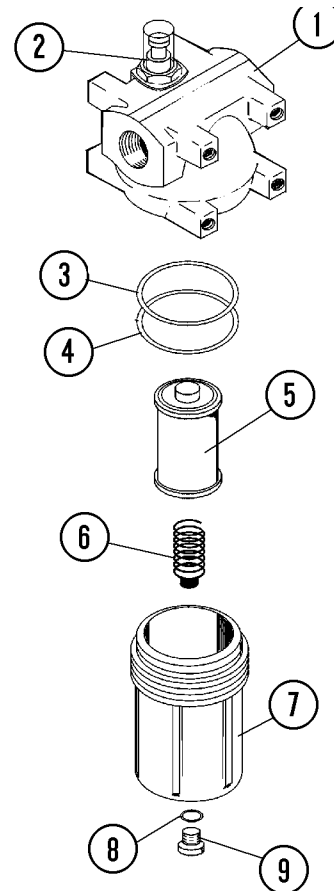

FIGURE 42-9. FILTER ASSEMBLY
Filter assembly element (5, Figure 42-9) must be replaced if bypass indicator (2) shows excessive element restriction.